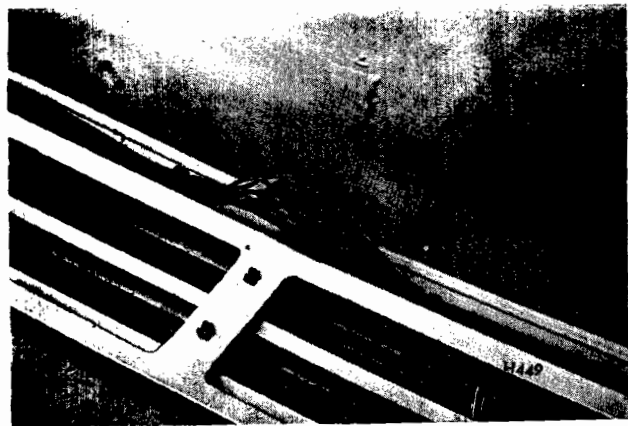

Fig. 8. Bonnet snap connectors
- lighting cables at bonnet (Fig. 8);
Disconnect the front lighting and horn cables at the snap connectors on the top centre of grille (Fig. 8).